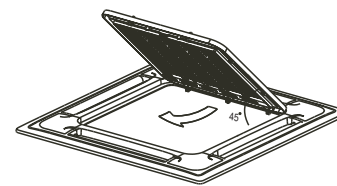

Fig. 4-10
- Draw the grill up to an angle of about 45°, and remove it. (Refer to Fig.4-10)